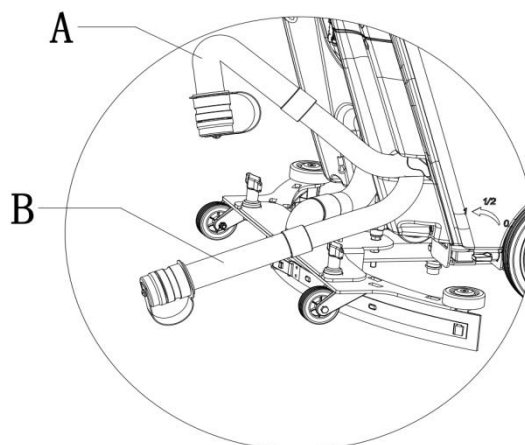

Figure 10
1. Take down the drain hose and fold the upper end (as shown A in Figure 10). Then lay down the drain hose to low spot or on the ground and unscrew the cover to empty the tank (as shown B in Figure 10).
Make sure the drain hose is lay down to low spot or on the ground (shown as A or B in figure 10) to avoid any dirty water spray to the operator.